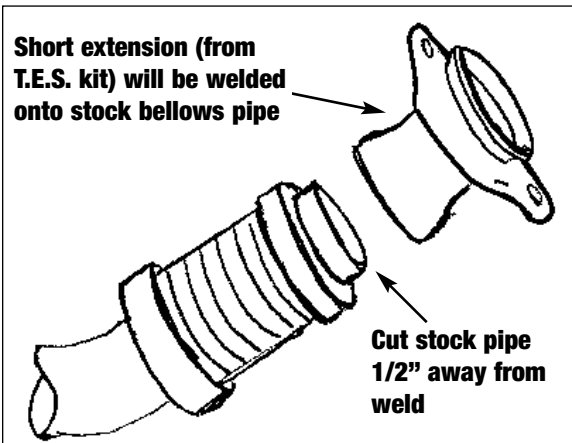

Fig. 1
1. Cut O.E.M. exhaust pipe approximately 1/2" above the weld at the front of the flex tube (**See Fig. 1**).